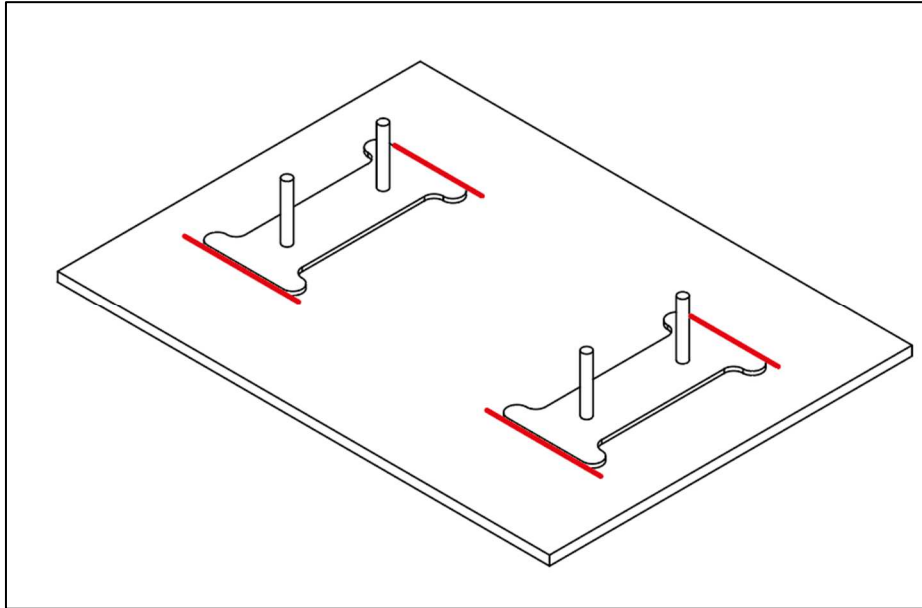

Figure 13.- Welding mounting accessories process
3. Once the outline is marked, remove the mounting accessories, and weld them to the mounting surface as shown in red in Figure 13.